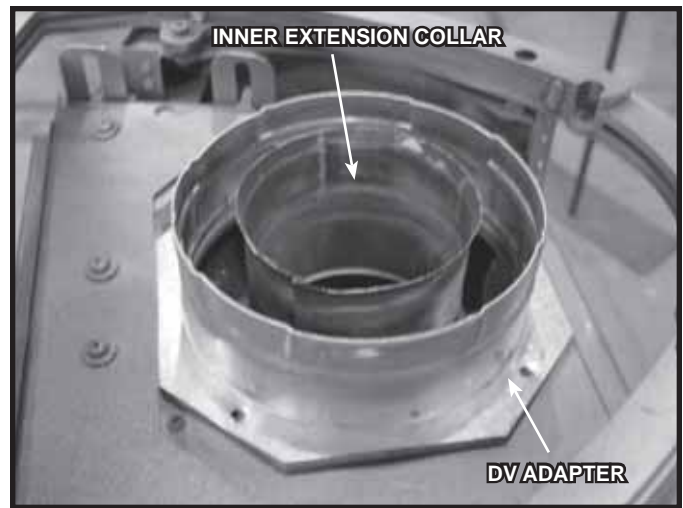

Figure 8.10
4. Remove the four screws from the DV adapter collar. (Figure 8.10) Set aside DV adapter collar and screws.
5. Remove the inner extension starter collar (Shown in Figure 8.10) and set aside.